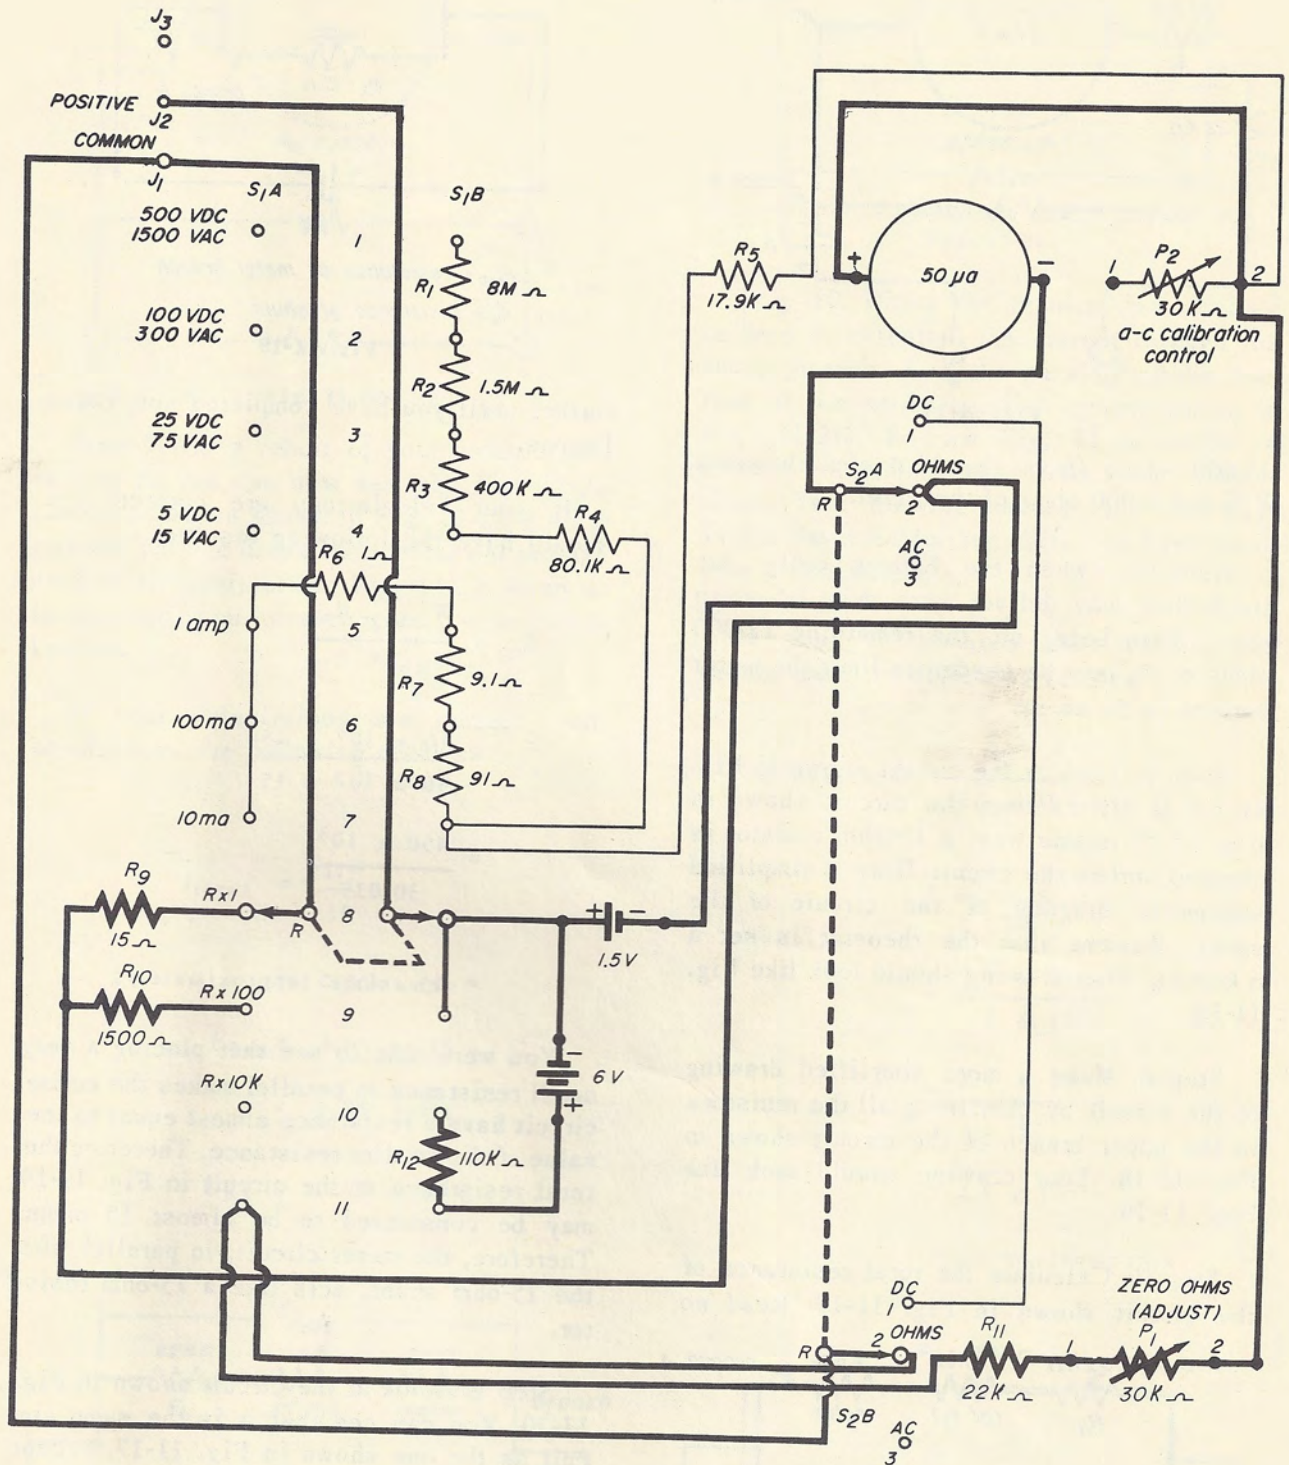

Fig. 11-16
Step 4. Now let us calculate the greatest value of resistance we are likely to need. Look at Fig. 11-16. It shows the ohmmeter section of your multimeter. When the range switch is in the  $R \times 10K$  position, there is a total of 7.5 volts used in the ohmmeter circuit. The series resistance necessary to limit the current to 50  $\mu$ a is: